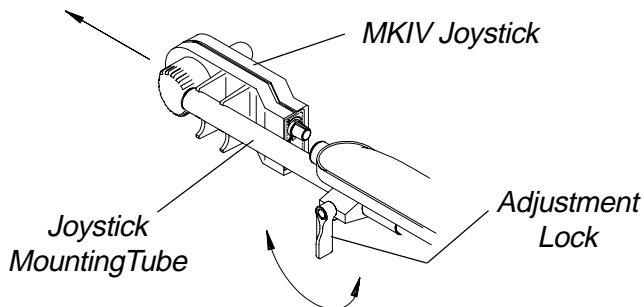

FIGURE 1 - PREPARING MKIV JOYSTICK FOR USE
**PREPARING MKIV JOYSTICK FOR USE (FIGURE 1)**
*NOTE: The MKIV joystick is factory installed on the right side of the wheelchair. To reposition the MKIV joystick onto the left side of the wheelchair, perform one (1) of the following: **INTEGRATED SLING SEAT WHEELCHAIRS - REPOSITIONING MKIV JOYSTICK** in this procedure of the manual or **CAPTAIN'S SEAT MODEL WHEELCHAIRS -** have the joystick repositioned by an authorized Invacare dealer or qualified technician.*